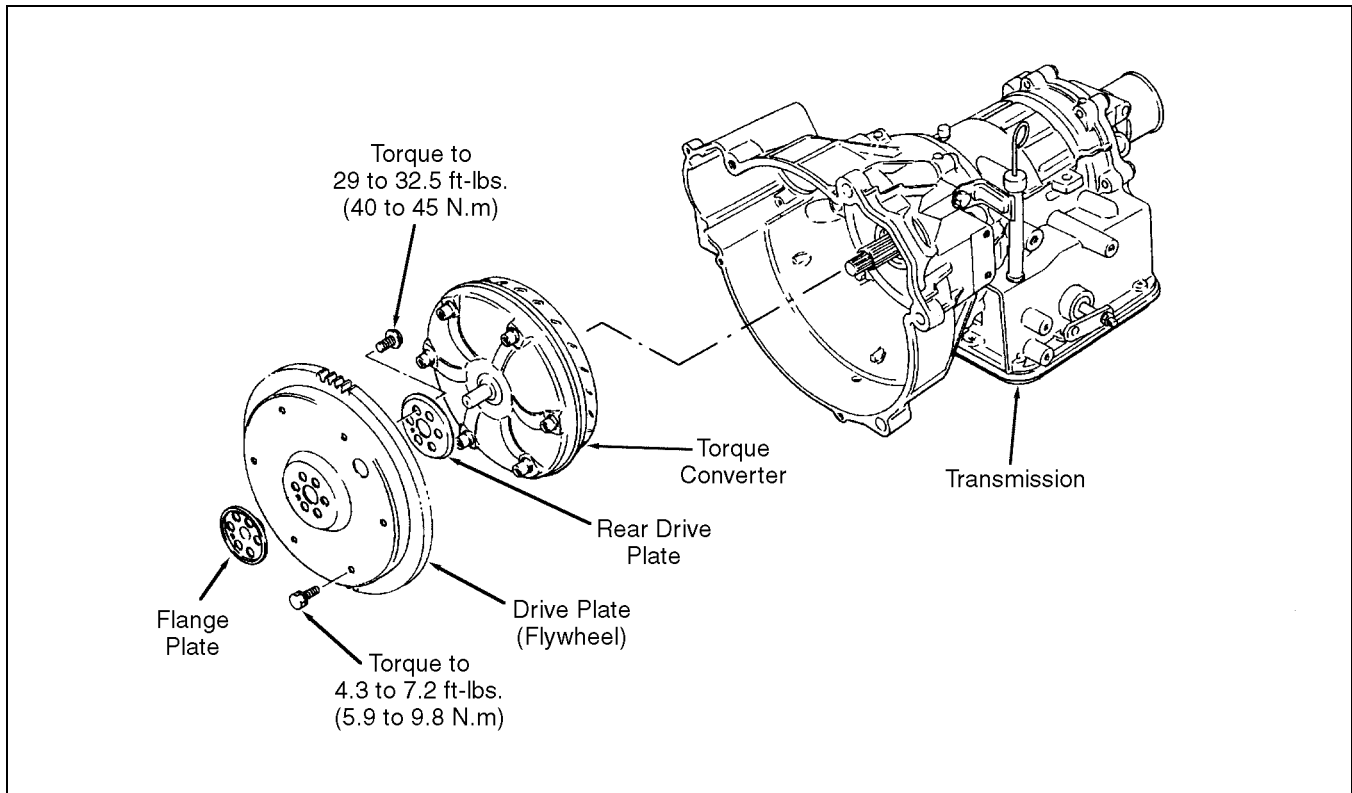

Figure 4J-3. Torque Converter Removal and Installation
3. Assemble and install the torque converter as shown in Figure 4J-3.